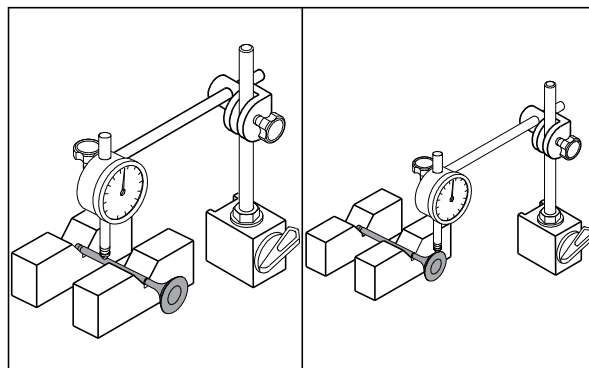

Fig. 3.69
- Using the special tools, measure the runout on valve stem and valve head. Replace the valve with new one if runout exceeds the service limit. (Fig. 3.69)